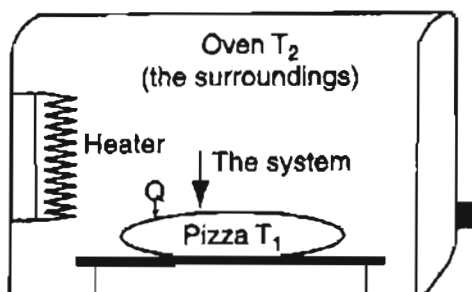

Figure 21.3 Heat transfer is energy crossing the system boundary because of a temperature difference.
In a discussion of *heat* we enter an area in which our everyday use of the term may cause confusion, since we are going to use heat in a very restricted sense when we apply the laws governing energy changes. **Heat (Q)** is commonly defined as that part of the total energy flow across a system boundary that is caused by a temperature difference (potential) between the system and the surroundings (or between two systems). See Figure 21.3. Engineers say "heat" when meaning "heat transfer" or "heat flow." Heat is neither stored nor created. **Heat is positive when transferred to the system.**